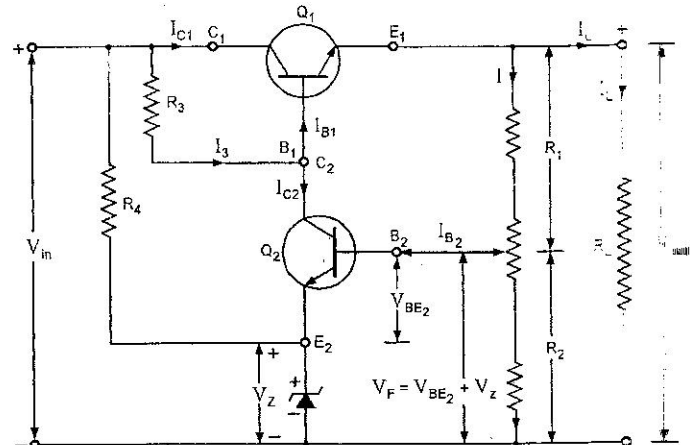

Fig. 32.6. Controlled Transistor Series Regulator or Negative Feedback Regulator
2. Controlled Transistor Series Regulator. A controlled transistor series regulator is shown in Fig. 32.6. The circuit is quite similar to that of a simple transistor series voltage regulator except that an additional transistor Q_2 is inserted in the circuit. The emitter terminal of this transistor Q_2 is connected to the negative terminal of input supply through a zener diode. The base of this additional transistor is connected to the variable tap of a potentiometer.
3. Controlled Transistor Series Regulator With Overload and Short-Circuit Protection. If the load resistance R_L is reduced or load terminals are shorted accidentally, a very large load current will flow in the circuit shown in Fig. 32.6. It may destroy the pass transistor Q_1 , diode or possibly some other component. Fuse protection will not prove adequate because the transistor will get damaged in a very small fraction of a second.